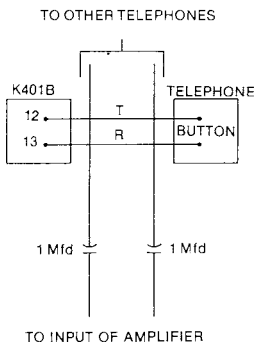

Fig. 3 — Schematic, Button-Accessed Paging
3.31 Connect a 1-mfd capacitor in series with each amplifier input and the T and R leads from the stations (see Fig.3).